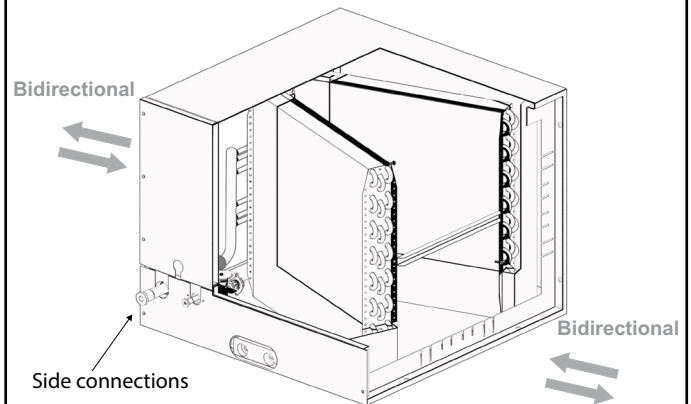

FIGURE 3.
- **Slab Coils** are bidirectional and require a transition duct to complete installation (Figure 3).